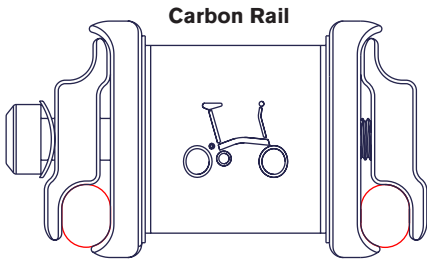
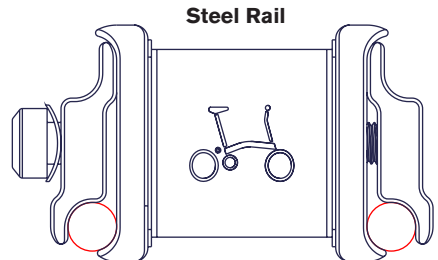

Fig. 1
Fig. 2
- This pentaclip is designed for carbon rails, (fig.1) or steel rails (fig. 2) depending on the orientation of the outer clamping parts LPU & LPT (Fig. 3)